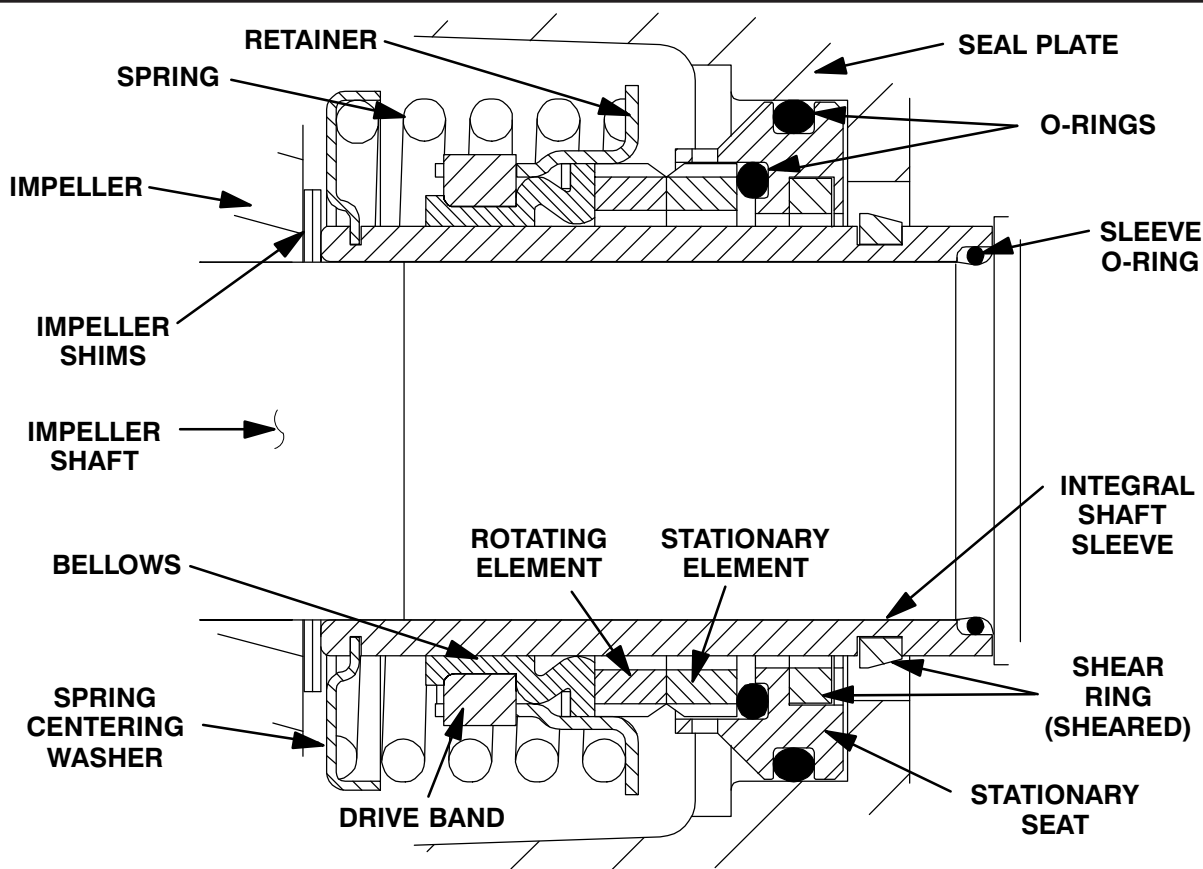

FIGURE 5. Cartridge Seal Assembly
To ease installation of the seal, lubricate the shaft sleeve O-ring and the external stationary seat O-ring with a very **small** amount of "P-80® Emulsion" or water. See Figure 5 for seal part identification.
Clean and inspect the impeller as described in **Impeller Installation and Adjustment**. Install the full set of impeller shims (3) provided with the seal, and screw the impeller onto the shaft until it is seated against the seal (see Figure 5).